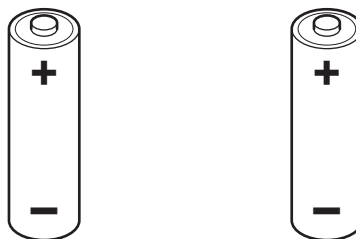

Fig. 9.1
- 9 Fig. 9.1 shows two 1.5V batteries.
Draw on Fig. 9.1 to show how the batteries can be connected so that the measured voltage remains at 1.5V. [2]